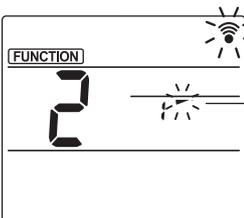

Fig. 3-3
(3) Setting the vane angle (Fig. 3-3)